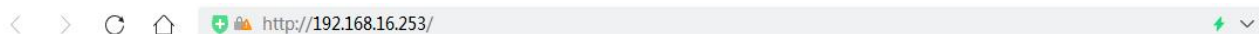

Figure 2 Using the ping command in Windows
- **Enter the command "ping 192.168.16.253" in the command line program of the Windows system, as shown in Figure 2.**